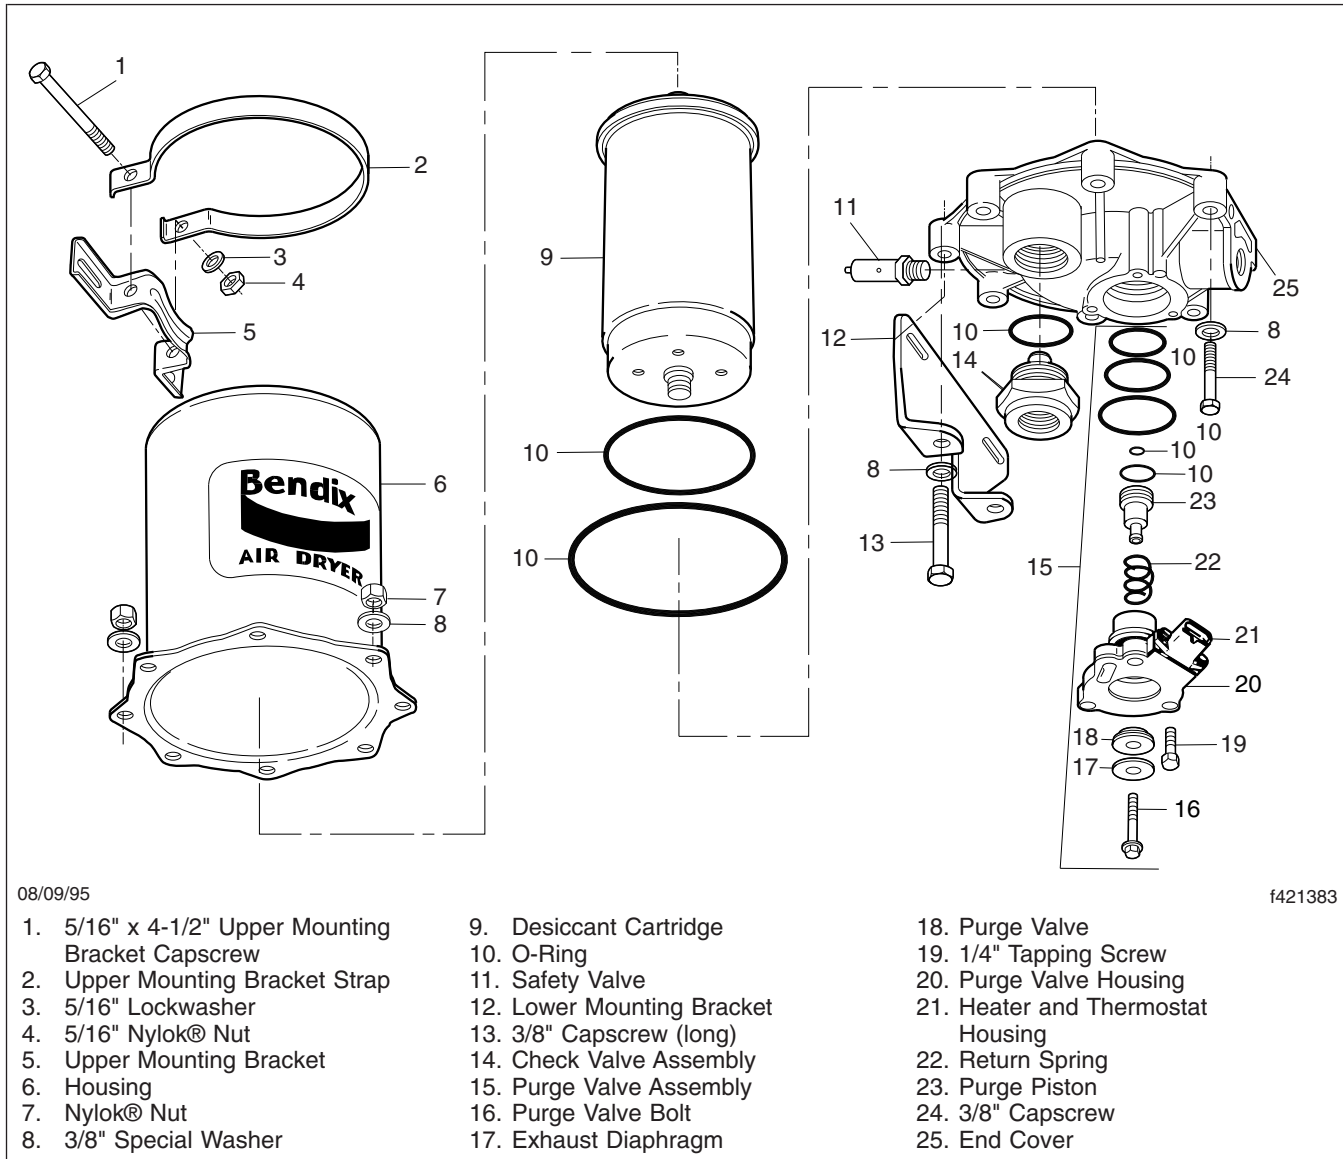

Fig. 1, AD-9 Air Dryer (exploded view)
8. Place the air dryer on a bench and remove the remaining 6 capscrews, 12 washers, 6 Nylok® nuts, and the air dryer housing. See Fig. 1. Discard the Nylok nuts. Remove the end-cover-to-housing O-ring.